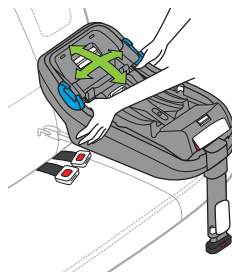

Figure 45
- While gripping the Base above the UAS Connectors, pull Base front to back and left to right to check for secure installation as shown in **Figure 45**. UAS system **MUST** stay secure and Base should not move more than 2.5 cm (1 in.) in any direction.